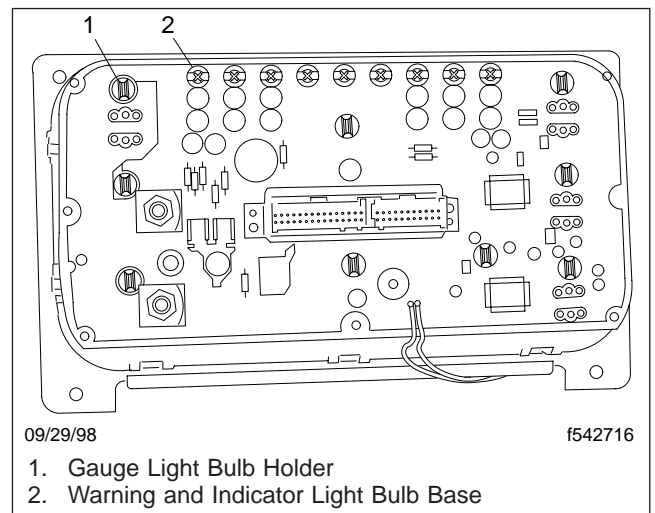

Fig. 3, Light Bulb Installation
4. Remove the burnt-out light bulb(s). See **Fig. 3**.